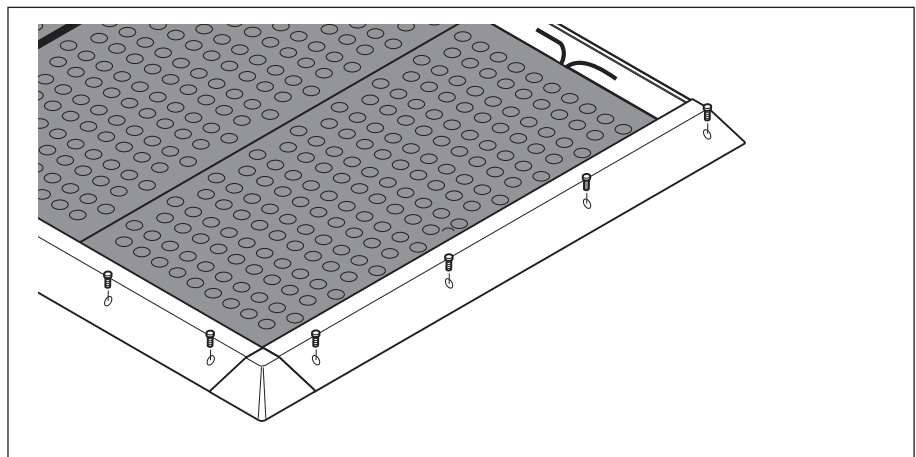

Fig. 5-8: Fix ramp rails
9. Fix ramp rails to the installation surface with screws (length: mind. 40 mm) (see Fig. 5-8, pg. 12)